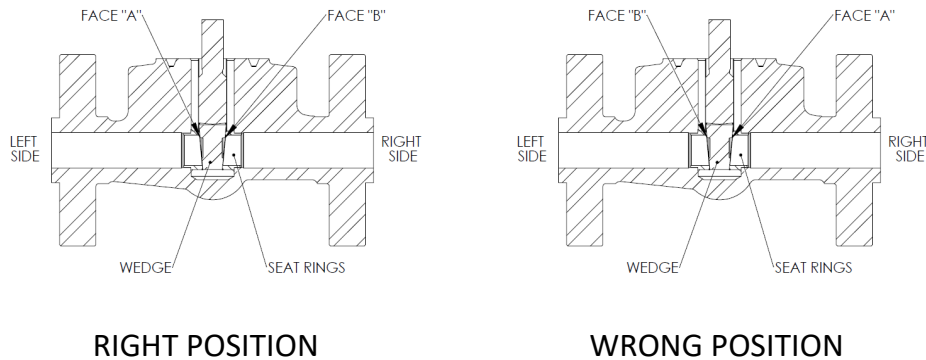

FIG. 3
- f. Replace with a new gasket (6) between body (1) and bonnet (2), insert wedge (4) in the stem T-head making sure that the faces are matched as noted above.
- g. Bring the bonnet assembly to its original position and tighten the body bolts (25) as described in Section 5.
- a. Proceed by completely opening the valve, assuring that the stem (5) is brought to the backseat position.
- b. Loosen the body bolting (25).
- c. Remove the bonnet assembly. Take note and witness marks of wedge (4) sealing surfaces relative to the valve seats (3) (refer to Figure 3). Faces should be matched during re-assembly. Extract wedge (4) from the stem T-head.
- d. Disassemble the stem assembly by turning the handwheel (16) in the clockwise direction.
- e. Make sure that the stem (5) surface in contact with the packing (8) is not damaged. If the stem (5) is damaged beyond repair, call for a stem replacement or consider replacing the entire valve.
- f. Replace the stem (5) by inserting it through the bonnet (2) until the stem (5) comes in contact with the yoke nut (14).
- g. Turn the handwheel (16) in the counterclockwise direction to retract the stem (5) until it touches the back seat.
- h. Replace with a new gasket (6) between the body (1) and bonnet (2). Insert the wedge (4) onto the stem (5) T-head making sure that the faces are matched as noted above.
- i. Bring the bonnet assembly to its original position and tighten the body bolts (25) as described in Section 5.